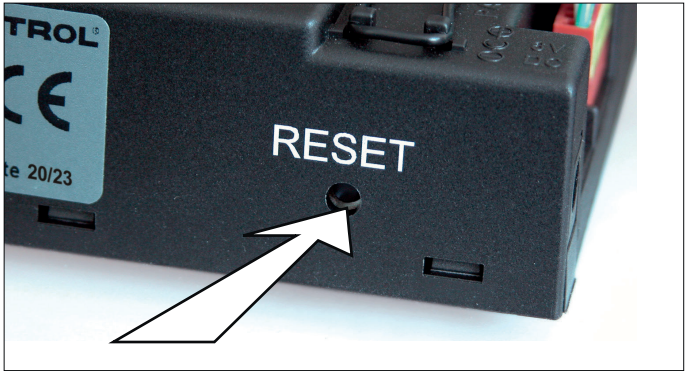

Figure 13: Receiver Reset Button
1. Press and hold the receiver's reset button (see figure 13) until you hear two (2) beeps. The first beep is short and the second beep is long. After the second beep, release the reset button.